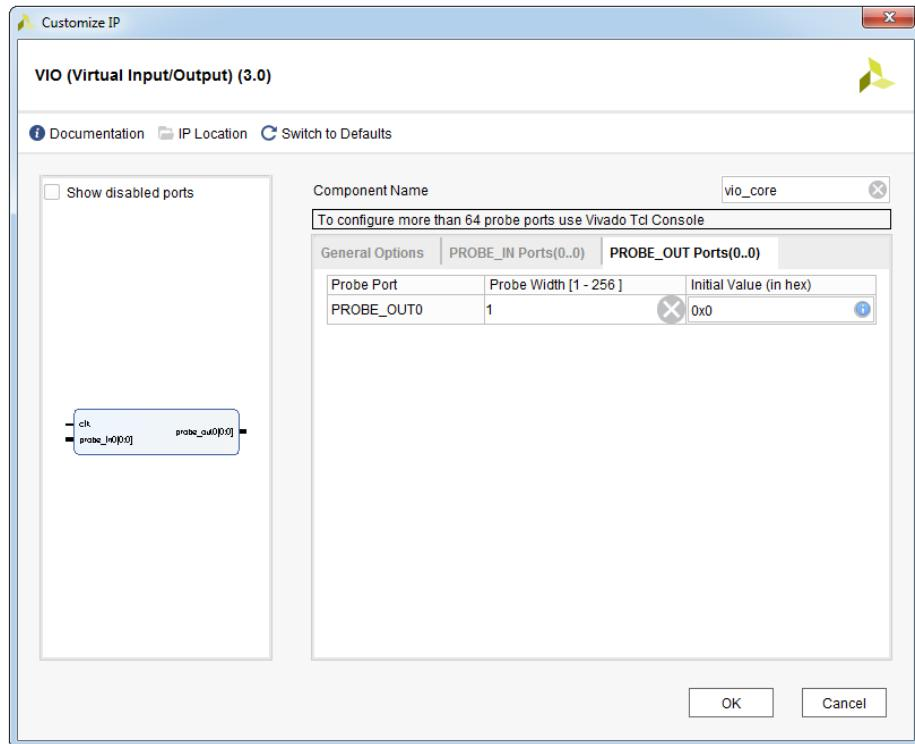

Figure 11.6: VIO core configuration window - PROBE_OUT Ports(0..0) tab
7. In the **PROBE_OUT Ports(0..0)** tab, leave Probe Width of the **PROBE_OUT0** Probe Port to be 1, because our sw0 signal is also 1 bit signal, see Figure 11.6.